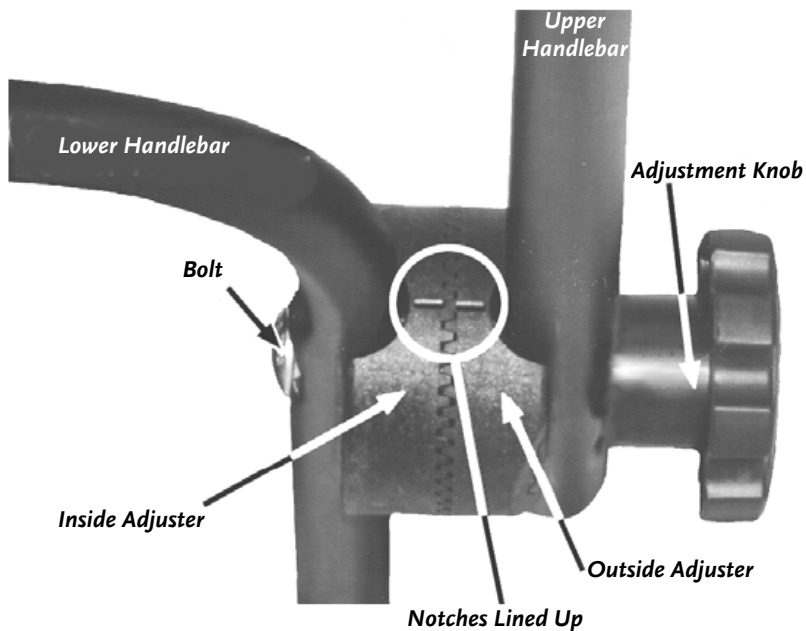
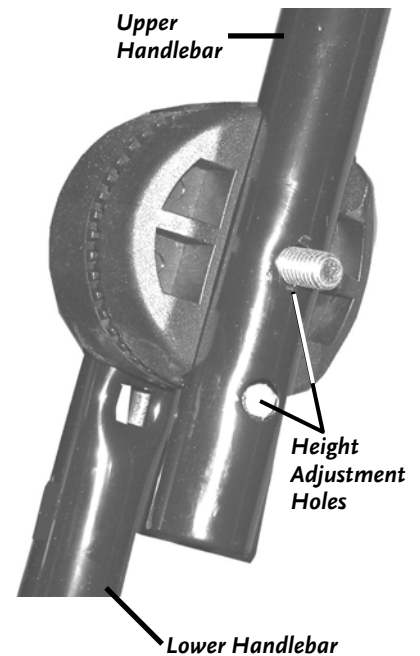

Figure 4a
Figure 4b
1. Loosen both the Adjustment Knobs and move the Handlebar up or down until the adjustment is the same on both sides. Use the Notches on the Adjusters (**Figure 4a**) to measure how many Teeth you have moved away from the center. When you have found a comfortable height, tighten the Adjustment Knobs securely.
2. For additional height adjustment options, there are two holes in the upper and lower Handlebars where the Adjustment Knobs are located (**Figure 4b**). Most people start with the Handlebars set in the lower holes of both the upper and lower Handlebar. You can adjust the height up or down by removing the Adjustment Knob Assembly and repositioning the Handlebars to a higher or lower hole. Be sure the Notches in the two Adjusters line up when you reassemble them (**Figure 4a**). You may need to adjust the PTA™ Lever as well. See the next section.